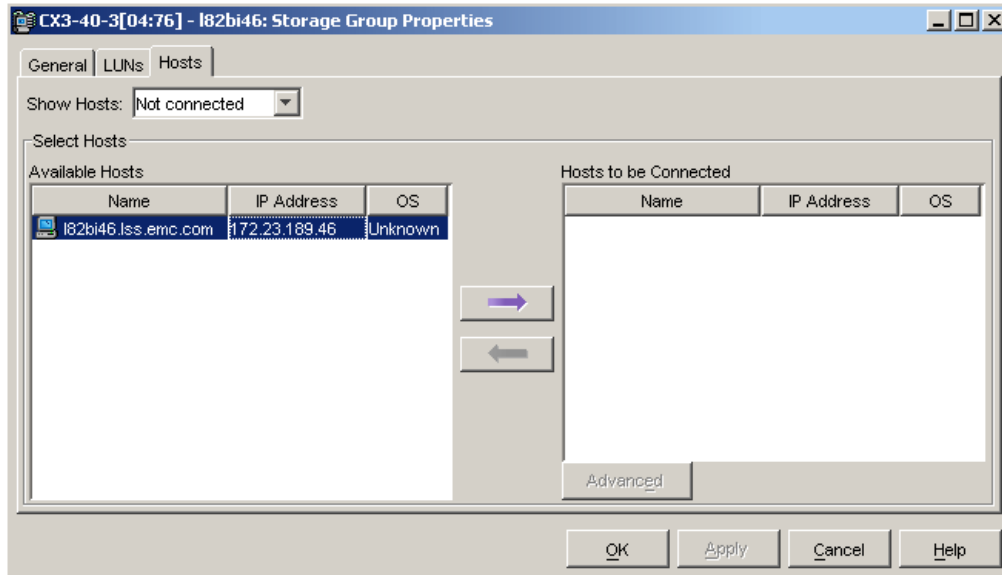

Figure 8-45 I82bi46: Storage Group Properties window
17. Right-click the I82bi46 group and select **Connect Hosts**. You will see a window similar to Figure 8-45 on page 261.
- Under the Host tab, select the available hosts you created and move it to the Host to be Connected window. You will see a window similar to Figure 8-45.